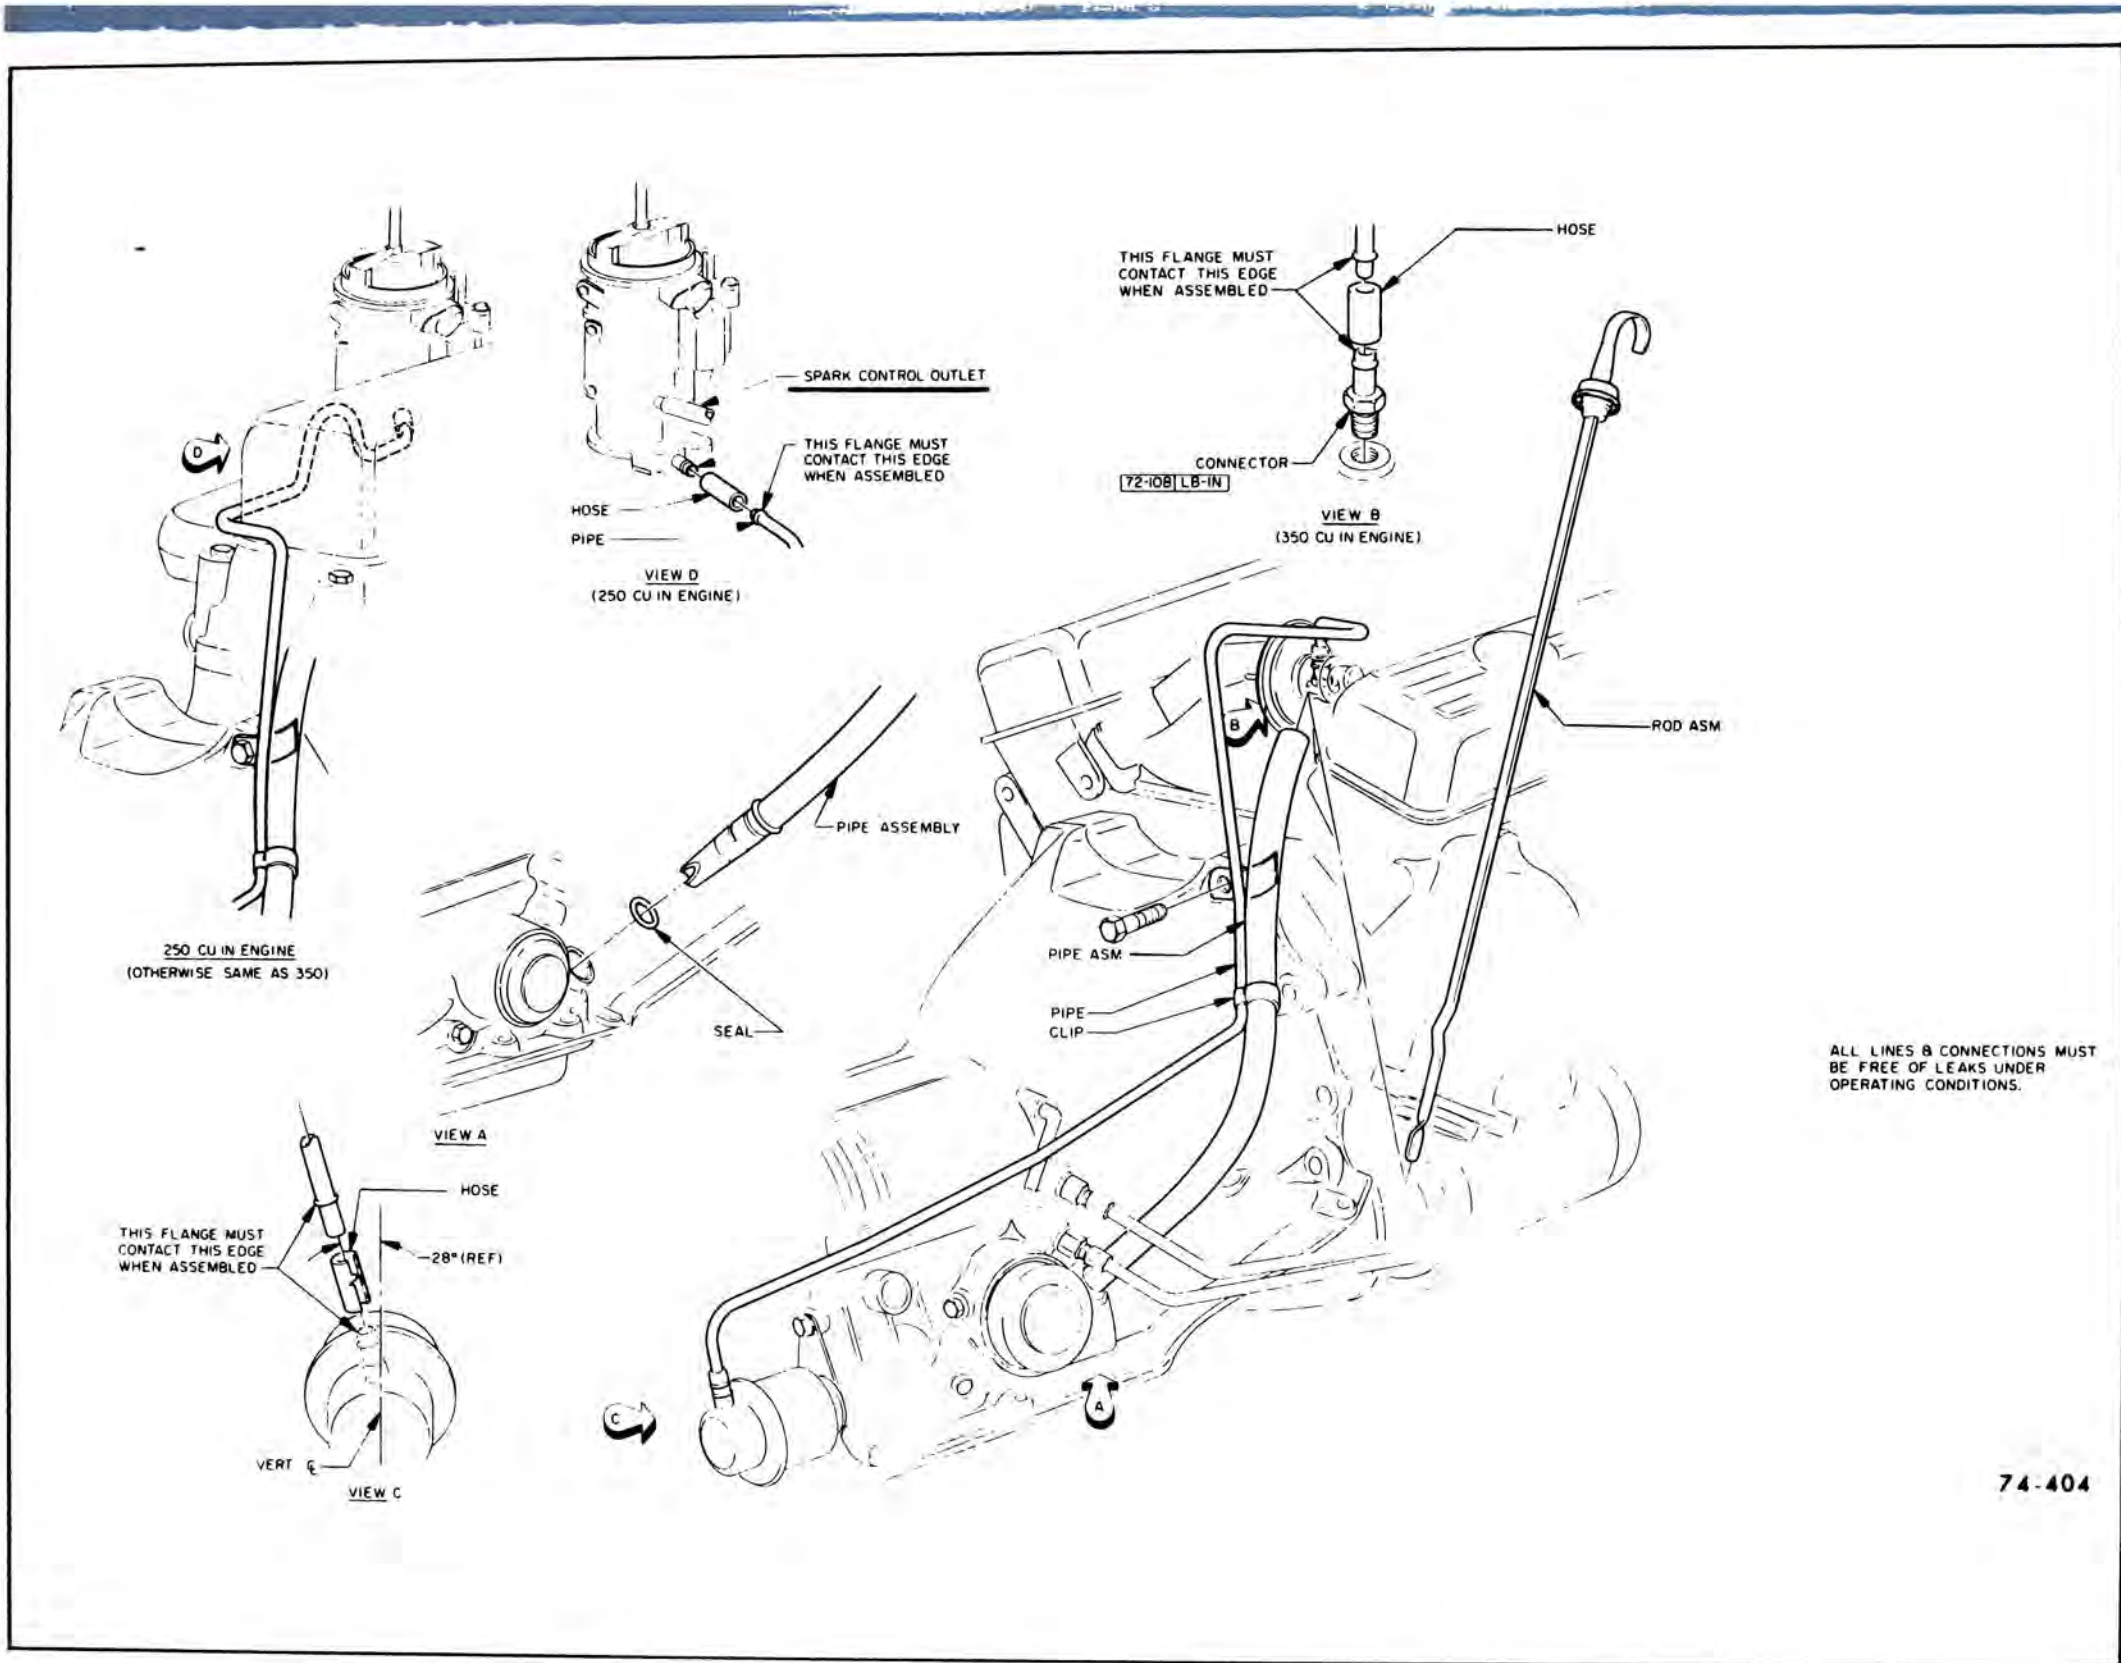

Figure 74-100—Vacuum Line and Oil Filler Pipe
5. Remove vacuum line from vacuum modulator. See Figure 74-100.
11. Disconnect transmission filler pipe at engine. Remove filler pipe from transmission. See Figure 74-100.
12. Install vacuum line to vacuum modulator. See Figure 74-100.